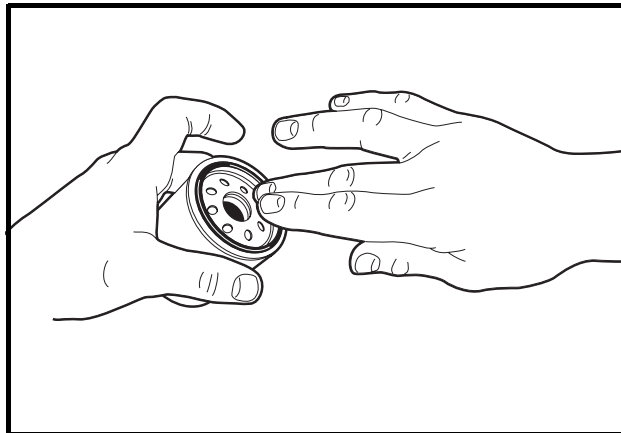

Figure 24 Coat Rubber Seal
12. To help seal the oil filter to the oil filter mounting bracket, apply a light coat of white lithium NLGI Number 2 grease (Dow Corning® BR2-Plus or equivalent) or new engine oil to the rubber seal around the outside surface of the filter before attaching it to the oil filter port (**Figure 24**). Install a new oil filter (CCI P/N 1016467) onto the engine oil filter port. **See following NOTE.**